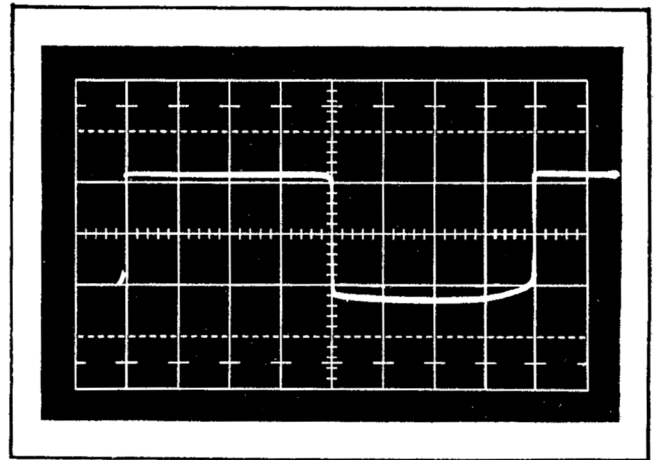
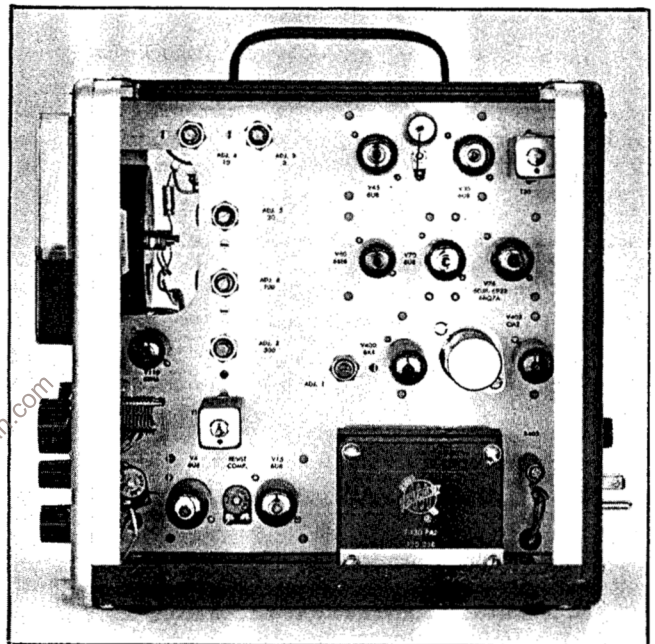

Fig. 6-7. Multivibrator waveform when adjusting symmetry.
Fig. 6-8. Adjustment controls located on the right side of the Type 130.
Position	Trace begins as in Fig. 6-7.
c. Set the S-30 control to +300 pF and observe the test oscilloscope display. Adjust the test oscilloscope Position and Variable controls for a display of one cycle in 8 divisions like Fig. 6-7. If the multivibrator signal is not symmetrical (equal time both positive and negative), adjust R68 ADJ. 1 control for balanced symmetry. ADJ. 1 and other internal controls are shown in Fig. 6-8.
d. Set the S-30 control to 300 μ H. Note the meter reading. Adjust the Type 130 T1 screwdriver adjust slug (location shown in Fig. 6-8) to increase the meter deviation (error) from 300 μ H by a factor of three. Adjust T1 so the greater error is on the same side of 300 μ H meter reading as first noted.
b. Set the S-30 control to 1 MEG Ω and note the meter change from its position when the S-30 control was at 100 k Ω . Use a non-conducting screwdriver and adjust C7 (shown in Fig. 6-8) for the same meter reading for both resistance positions of the S-30 control. It may be necessary to adjust a zero control to keep the meter reading near midscale. Adjust C7 while switching the S-30 control back and forth between the two resistance ranges.
b. Use a non-conducting screwdriver adjustment tool and adjust C2 (shown in Fig. 6-8) for a meter reading of 7.5 μ μ F. Turn the COARSE ZERO control slightly counterclockwise and check that the meter can still be zeroed.